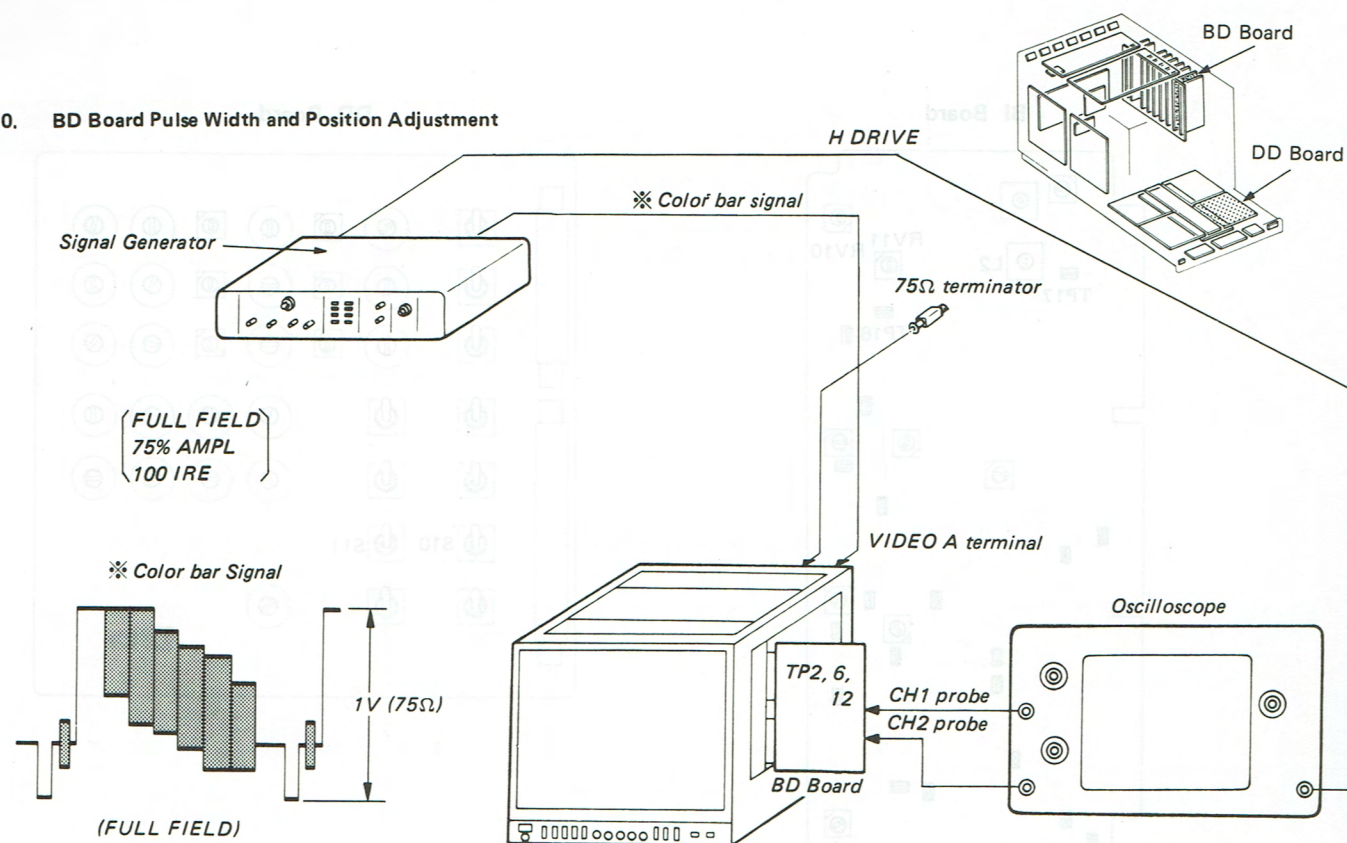

Fig. 10-1.
1. Connect as shown in Fig. 10-1.